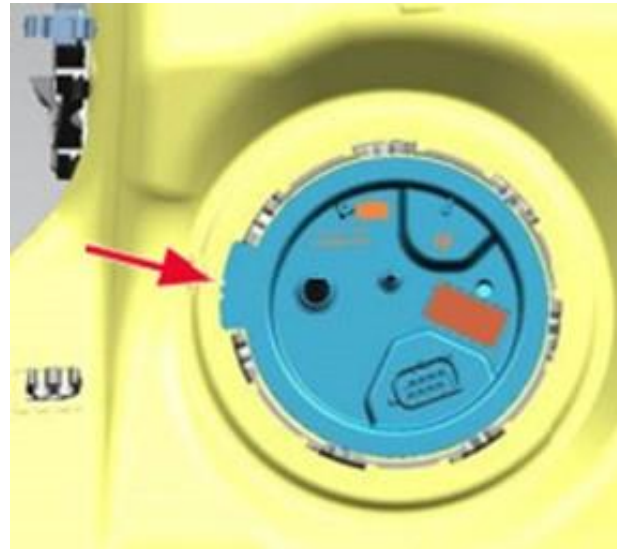

Figure 20 – Tab Position
21. Position the flange so that the tab is positioned as shown (Figure 20).